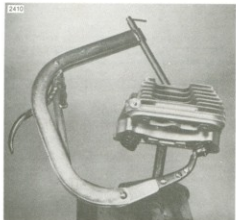

Figure 3-7. Compressing Valve Springs
1. Compress valve springs (5 & 6) with VALVE SPRING COMPRESSOR, Part No. HD-34643 as shown in figure 3-7.
2. Remove keepers (7), upper collar (8), springs (5 & 6) and lower collar (9). Mark keepers so they will be reinstalled on the same valve.